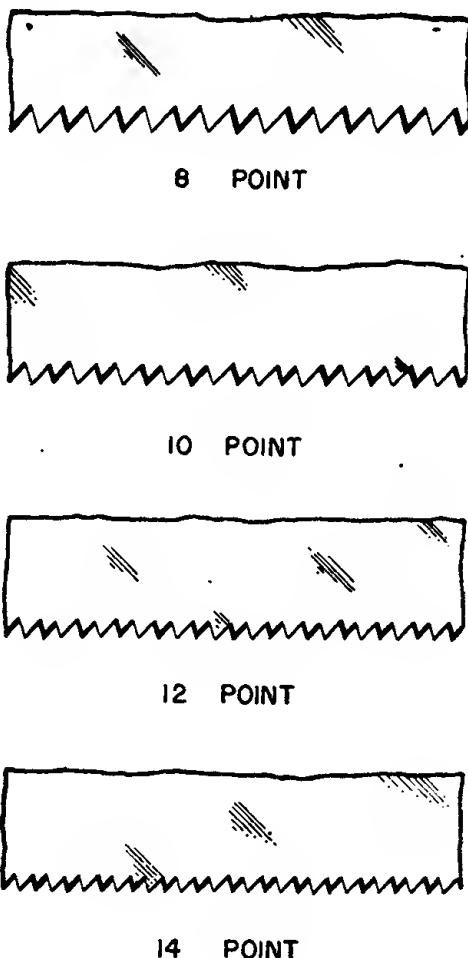

Figure 93. Size of saw teeth.
(2) All saws have the teeth bent out a little. This is referred to as the "set." Usually every other tooth is bent to the left and the other teeth are bent to the right. This makes the cutting edges of the teeth slightly wider than the blade itself, providing clearance for the blade, reducing friction, and making the saw easier to use. Waxing the saw blade with paraffin will also make it work more easily. On wet or green wood, a saw with a great deal of set is used. On dry wood, a saw with very little set is used. A saw should have only enough to provide the necessary clearance.
(3) The grade of a saw (called the "point") is determined by the number of teeth per inch. An 8-point saw has 8 teeth per inch. A 10-point saw has 10 teeth per inch. The greater the number of teeth per inch, the smoother the cut will be. For most work on airplanes, a 12- or 14-point saw will be used. (See fig. 93.)